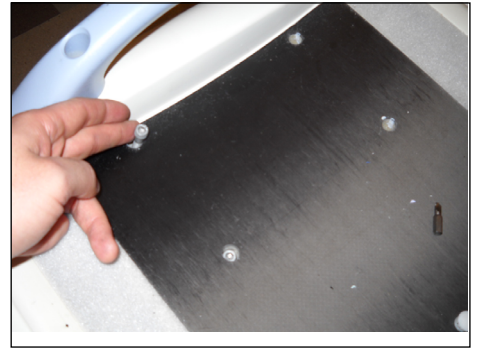

Fig. 1
2. Remove covers on cradle, and remove screws using Allen wrench from top 4 locations on the foot end (Fig. 1).